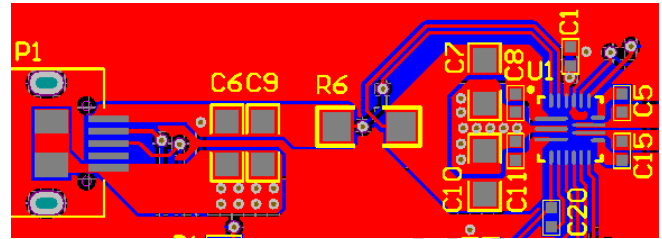

Fig6. Top Layer
- Place small-size input capacitors as close as possible between the PVIN1/2 pins and PGND pin. These capacitors can effectively filter out high-frequency noises due to their low ESR and ESL. Please refer to C8 and C11 in Figure 6.